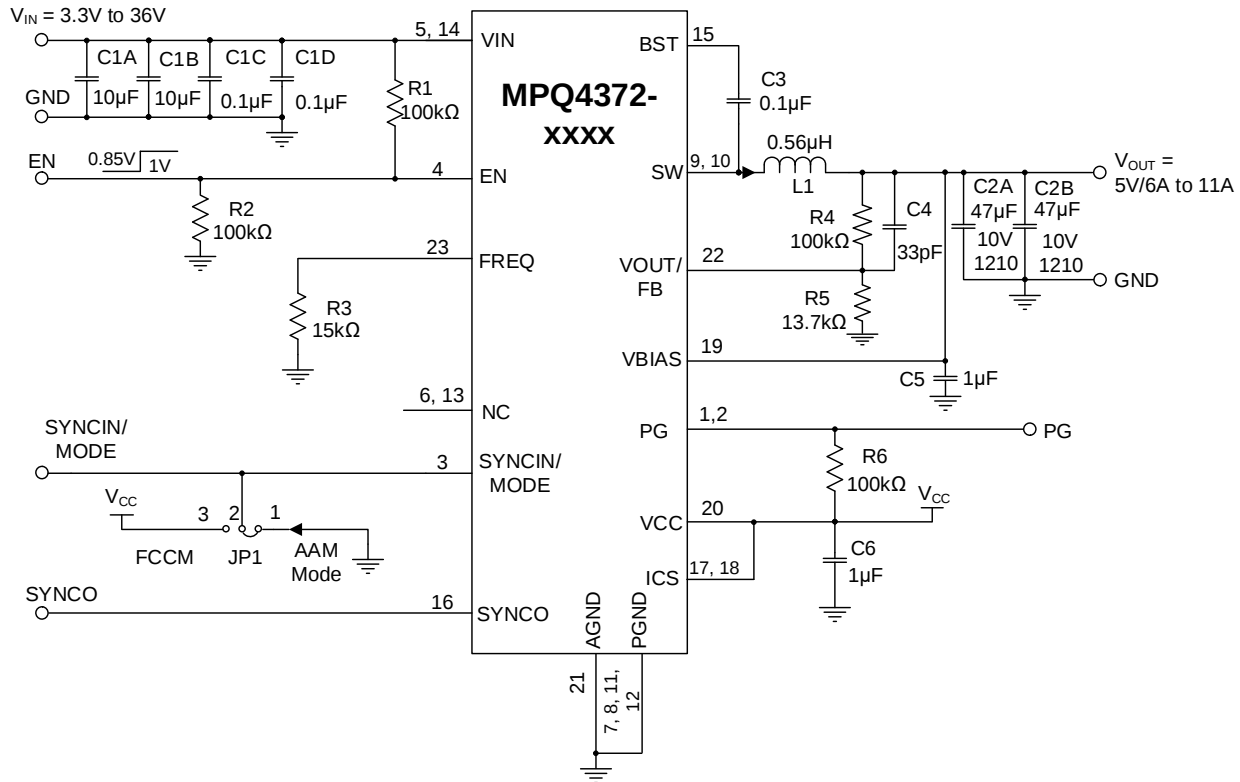

Figure 14: Typical Application Circuit (Single-Phase, V_{OUT} Adjustable for the MPQ4372-xxxx, $V_{OUT} = 5V$, $f_{SW} = 2.2MHz$)
- 15) The recommended PCB layout is based on Figure 14 on page 76.